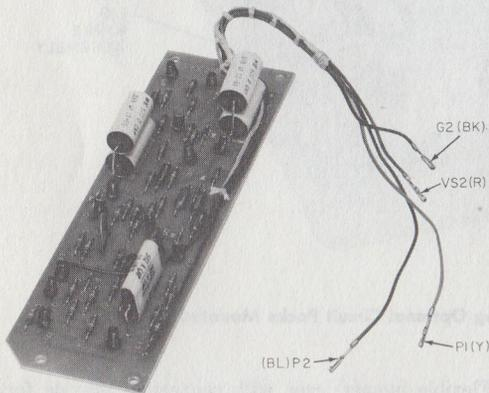

Fig. 5—KS-20721, List 11 Pulse Corrector
- Corrector, Pulse, KS-20721, L11 (Fig. 5, see 2.04).
2.04 The KS-20721, List 11 pulse corrector (Fig. 5) is not required for initial installations. It shall be used only after it has been determined that the dial pulses received from CPE meet all requirements specified in the Technical Reference and pulsing problems still exist. It should not be used to correct poor customer pulses. When adding the List 11 pulse corrector to the List 1 coupler, remove wiring option Q and provide option V as shown in Table B.